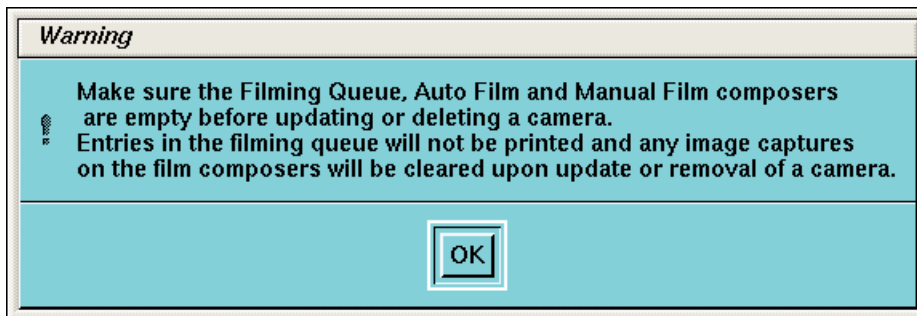
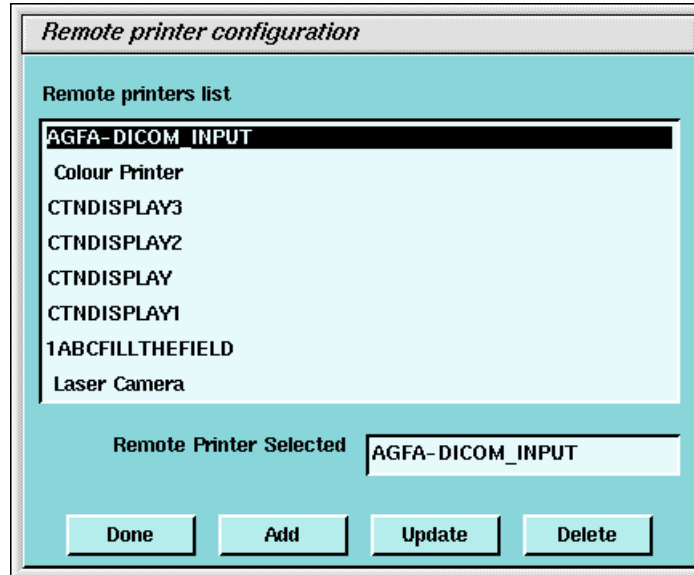

Figure 7-8 Warning Screen
Figure 7-9 Printer Configuration GUI
- 3.) The Graphical User Interface displayed shows a list of cameras installed (See Figure 7-9). First, you must click OK in the warning message box. See Figure 7-8.
- a.) To add a new camera, click the ADD button (See Figure 7-9).